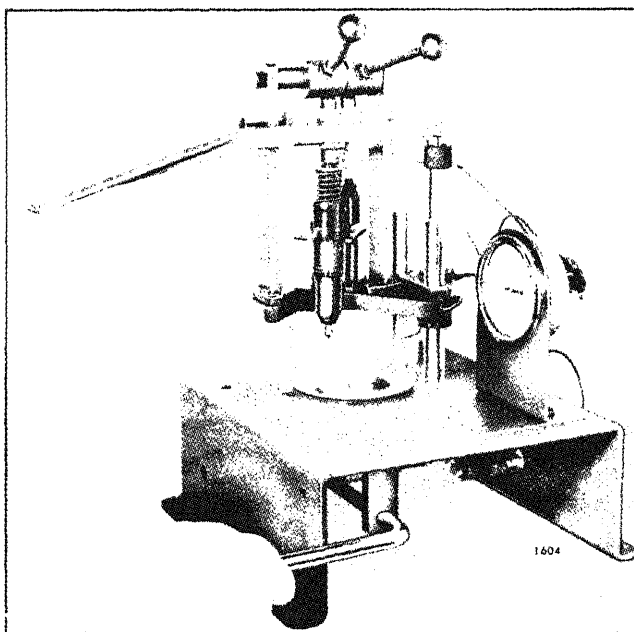

Fig. 9 - Injector High Pressure Test
4. With the injector rack in the full-fuel position and the injector tester handle locked in position by means of the handle lock (Fig. 9), operate the pump handle to build up and maintain the pressure.